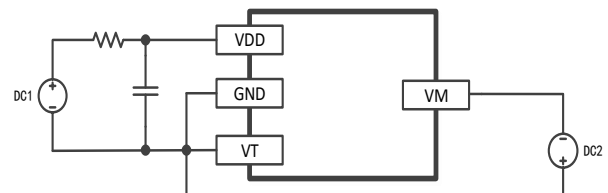

Figure7-4
a. According to the figure7-4, connect the DC1 power supply to the B + and GND pins of the system board and set the voltage to about 3.0V/3.6V/4.2V, and load DC2 power supply from GND to VM.